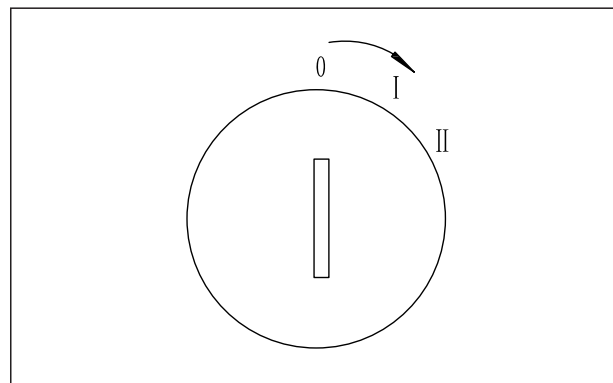

Fig 4.15
4. Insert Ignition key and turn clockwise to position 'I'.(see Fig 4-15).